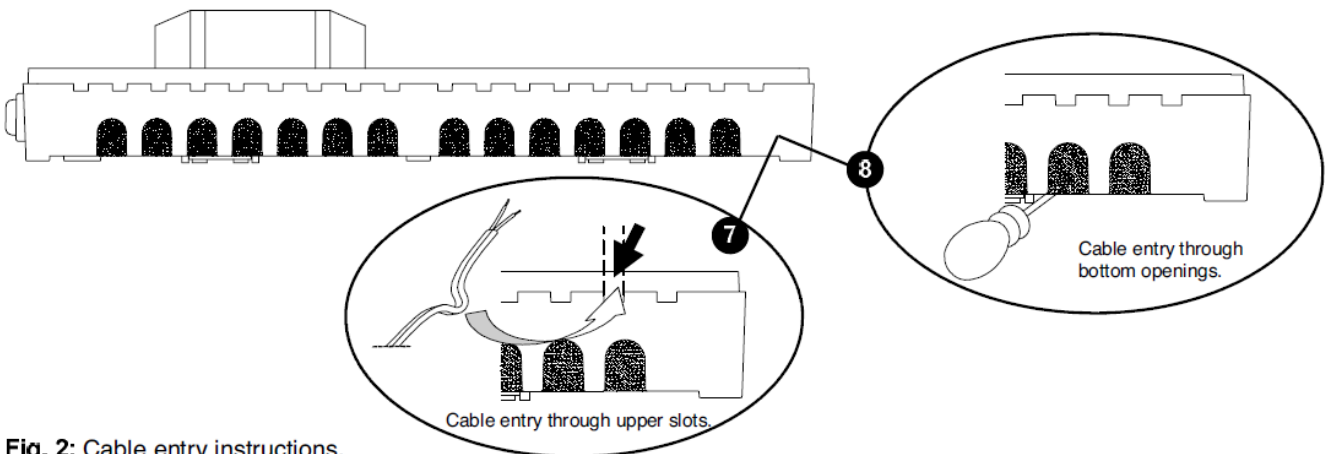

Fig. 2: Cable entry instructions.
Cable entry through the top slots in the bottom face (7 in Fig. 2):
Using pliers, carefully remove the plastic 'teeth' shown arrowed 7, Fig. 2, then after connecting the cable to the appropriate terminal, bend it as shown in Fig. 2 and clamp using the clamps provided.
Cable entry through the lower slots in the bottom face (8 in Fig. 2):
Pierce the sponge as shown in item 8, Fig. 2, then pass the cable through the sponge into the centre. Make the electrical connections to the appropriate terminals and clamp using the clamps provided.